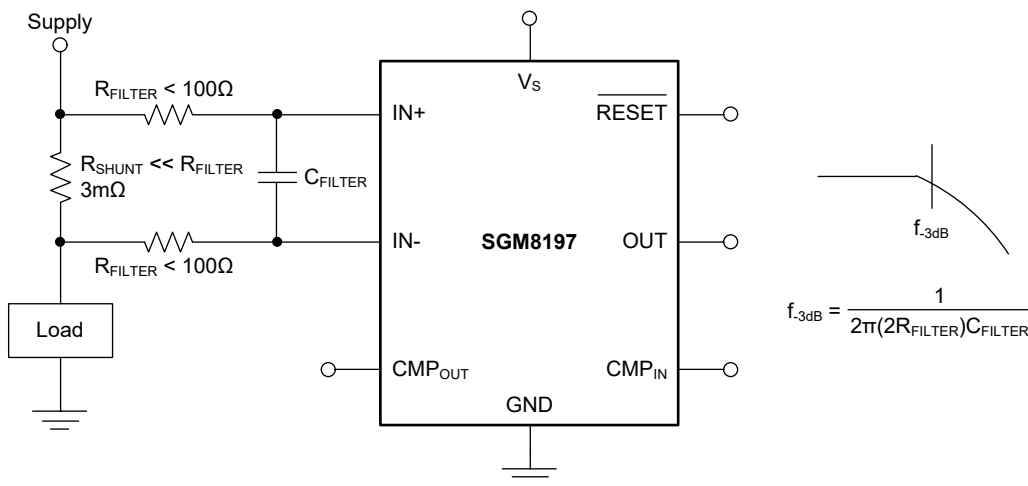

Figure 6. Filtering at the Input (Gain Error: 1.5% to 2.8%)
It is not recommended to add a filter at the output of SGM8197 series, as doing so will increase impedance seen at the output of the internal buffer. Filtering at the input pins would be a good choice as long as the change of the input impedance is taken in account. The corresponding filtering circuit is shown in Figure 6. The shift in the initial gain and the effects on the gain tolerance can be minimized by choosing a low resistor value. Equation 1 shows the effect of the initial gain.
1. For example, the calculated error of gain is 1.96% if the customers replace the two 100Ω 1% resistors at the position of RFILTER (shown in Figure 6). However, the worst case is that the internal input impedance is 5kΩ - 30% and the offset of RFILTER is 3%. Under this worst situation, the error of gain would be larger than normal after calculation.